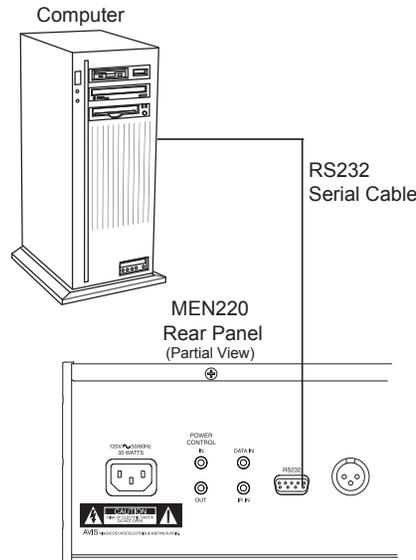

Figure 1
1. A 9 Pin RS232 Serial Data Cable from the MEN220 RS232 Connector to an active unassigned serial port connector on the Computer. Refer to figure 1.